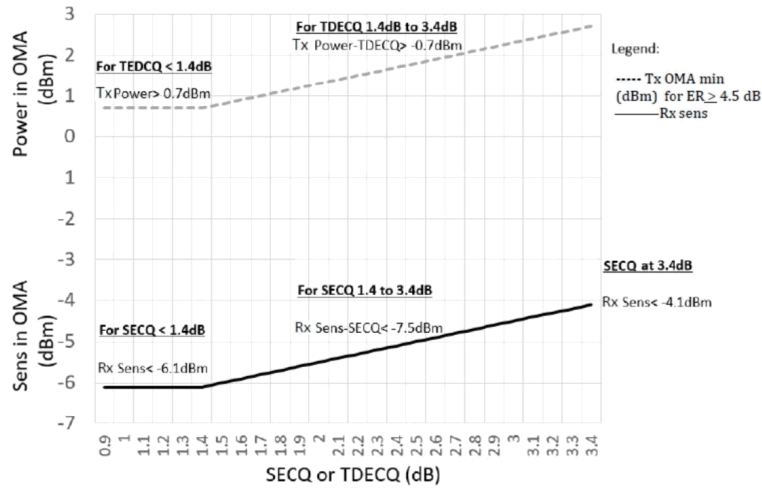

Figure 4. Illustration of Receiver Sensitivity Mask for 100G-LR
- Receiver sensitivity (OMAouter), each lane (max) is informative and is defined for a transmitter with a value of SECQ up to 3.4 dB. It should meet Equation (1), which is illustrated in Figure 4.